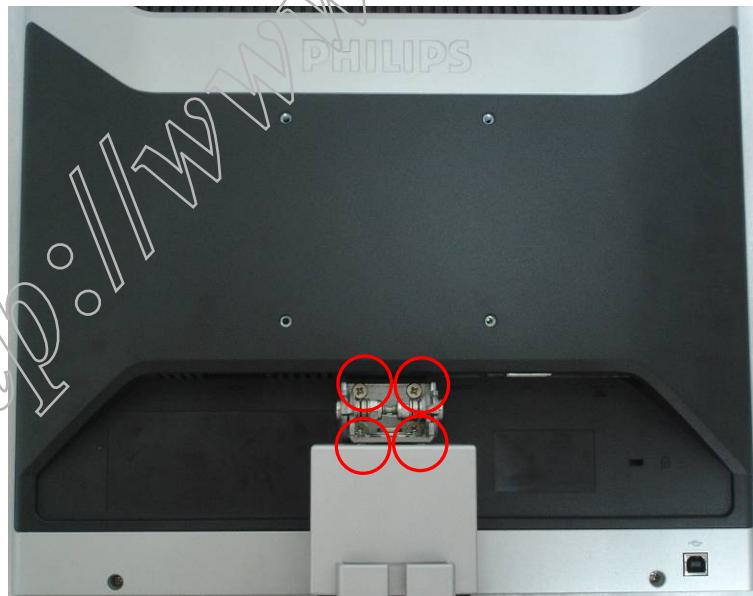

Fig.4
**4. Remove base stand as Fig.4**